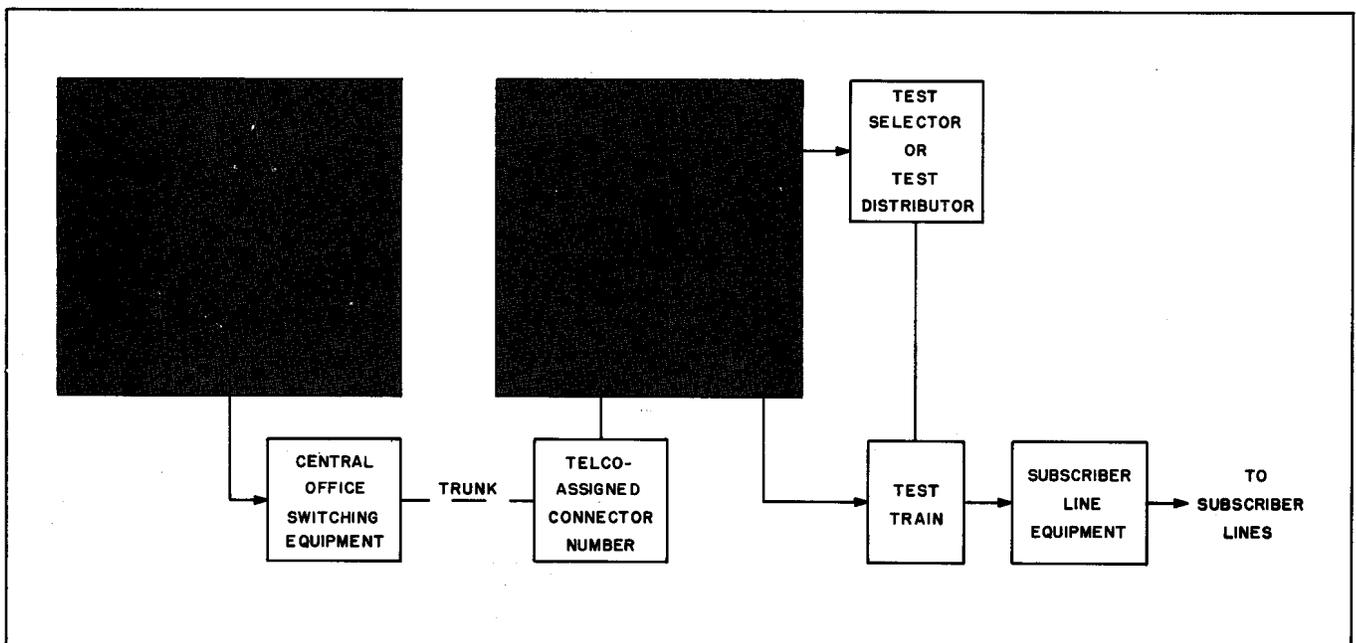

Figure 5 - Simplified Block Diagram Showing How Toll Accessing is Accomplished Page 5
- 4.03 Toll Access: Toll Accessing involves DDD and other accessing schemes that limit loop dialing (by means of register-senders, for instance). With this kind of arrangement, it is first necessary to ready the remote office with an ordinary telephone call. The 612A System allows this call to be held at an assigned connector number. At the master station, a dial thru FSK tone transmitter is placed under rotary-dial control and transmits dial pulse information to the remote station. The latter converts these pulses to loop pulses for stepping the test train. (Figure 5). The procedure for this method of access is as follows: